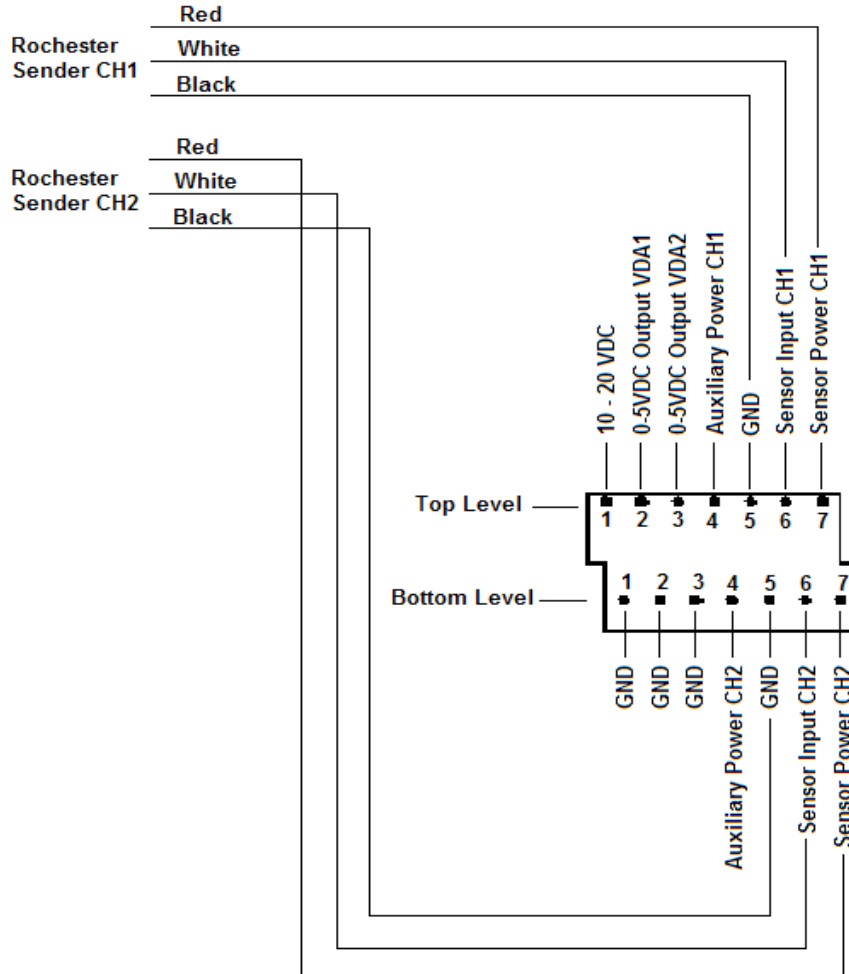

Figure 8A
- b) Make sure that the sender is properly connected (Refer Figure 8A)